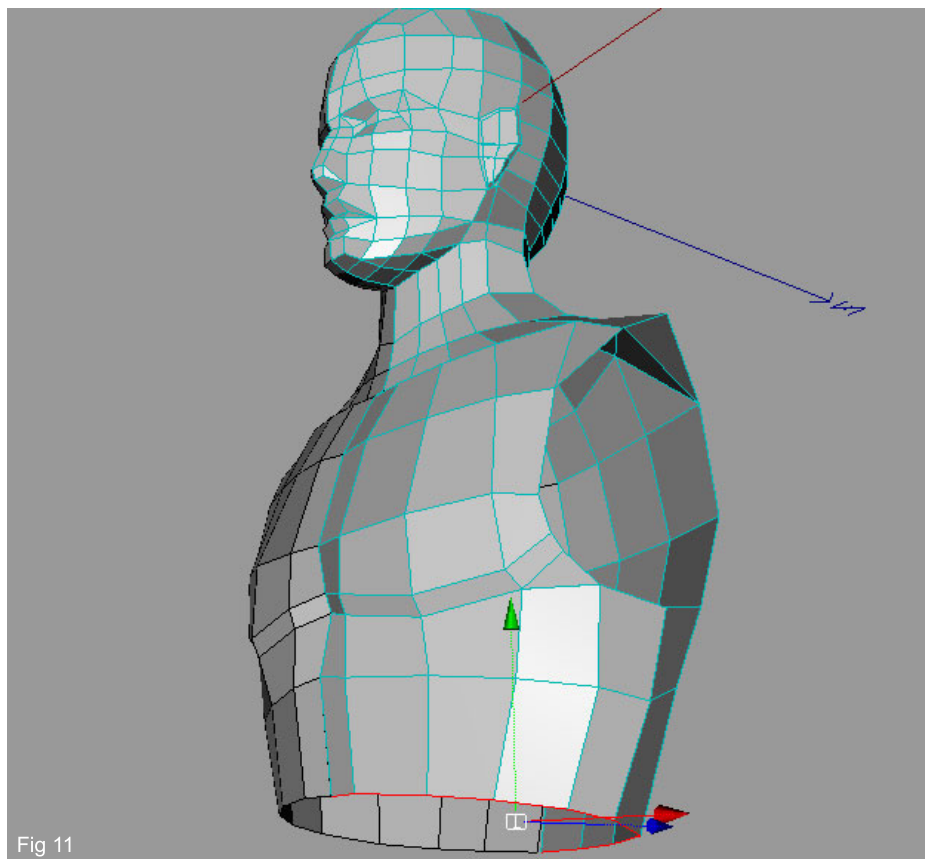

Fig 11
11. The upper torso is now completed and we have also a hole ready to build our arm. Make an extrusion, like shown like shown in the image to form the lower back, abdomen and pelvic area (Fig11).